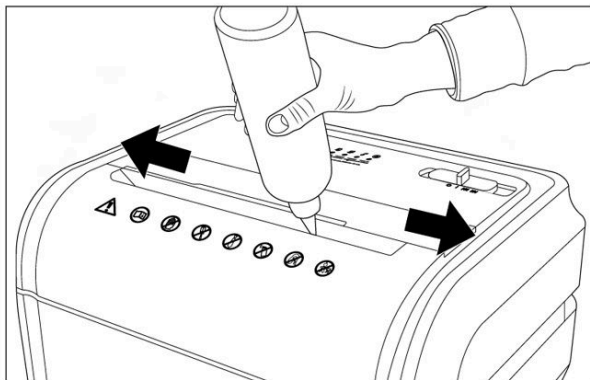

FIGURE 3
- Oil the shredder blades every month with special shredder oil. Follow oiling procedure below (FIGURE 3). It helps to keep the shredder blades operating well over many years of use.